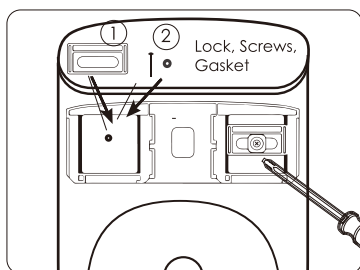

Fig.3
3). Install the fixing plate and fixing plate lock on the ceramic body with expansion screws (please do not forget to put on the gasket before screwing), adjust the positions of the fixing plate, ensure that the fixing plate is centered, and then tighten the screws (Fig.3).